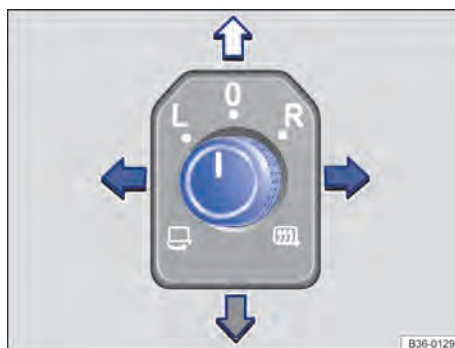

Fig. 87 In the driver door: rotary knob for the exterior mirrors
2. Turn the rotary knob in the driver door to the desired symbol → Fig. 87.